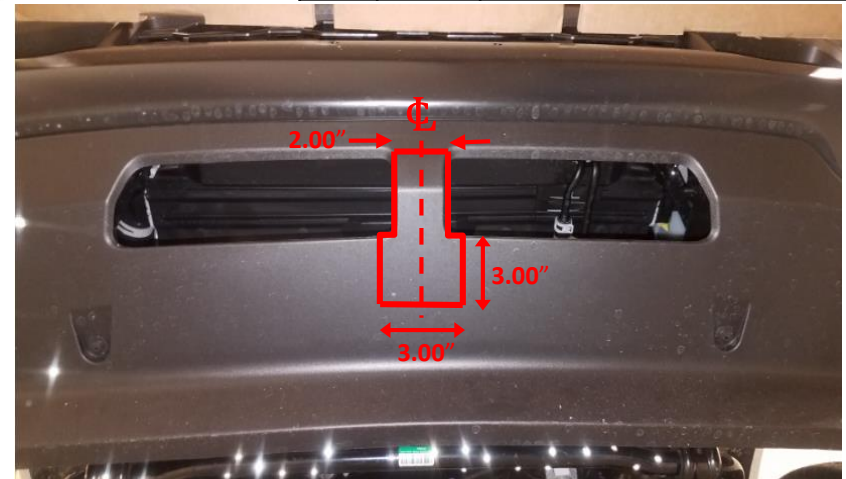

Figure 2
- Remove factory bolts** – Using 24mm socket and open-end wrench, remove (2) M16 factory bolts from vehicle frame, both sides. (**Caution:** Once the (2) M16 factory bolts are removed it is possible the bracket could separate from vehicle frame. If bracket is loose, then remove from vehicle frame until installing hitch). Using 18mm socket and open-end wrench remove (1) M12 factory bolt from vehicle chassis, both sides. Return factory bolts to vehicle owner.
- Trim lower fascia** – Using a utility knife, trim center section of fascia opening. This piece of the fascia will be completely removed and discarded. Next trim a 3" x 3" square below center, see **Figure 2**.
- 1. Remove factory bolts** – Using 24mm socket and open-end wrench, remove (2) M16 factory bolts from vehicle frame, both sides. (Caution: Once the (2) M16 factory bolts are removed it is possible the bracket could separate from vehicle frame. If bracket is loose, then remove from vehicle frame until installing hitch). Using 18mm socket and open-end wrench remove (1) M12 factory bolt from vehicle chassis, both sides. Return factory bolts to vehicle owner.
- 2. Trim lower fascia** – Using a utility knife, trim center section of fascia opening. This piece of the fascia will be completely removed and discarded. Next trim a 3" x 3" square below center, see **Figure 2**.